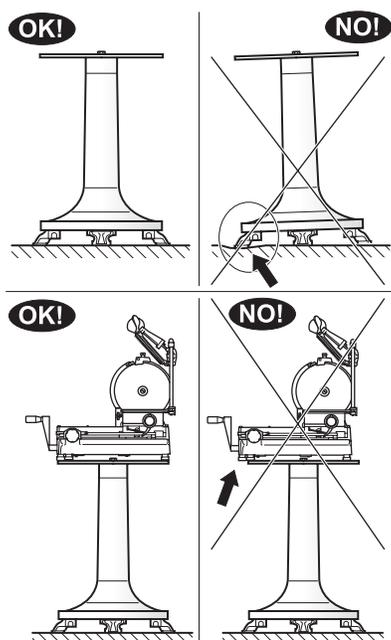

Figure 8-1
1. Make sure stand base is level and that all three feet are correctly level on the ground (Figure 8-1).